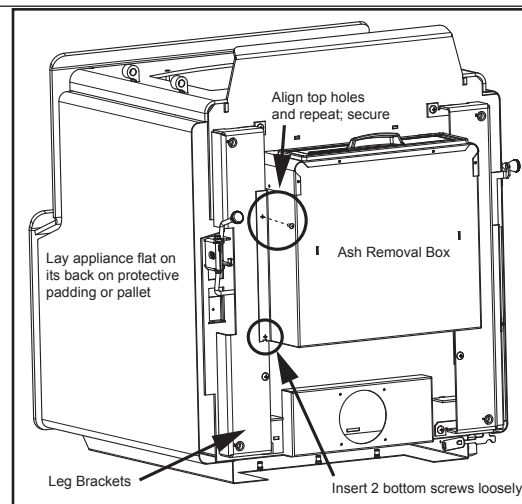

Figure 21.1
9. Install ARS latch by sliding latch assembly over 2 threaded studs protruding from the bottom on the left hand side of the appliance. Secure by using two nuts use 7/16 socket wrench (**Figure 21.1 on page 21**).
Start bottom two bolts through ash drawer, leg brackets and into the bottom of the appliance (**Figure 21.1**).